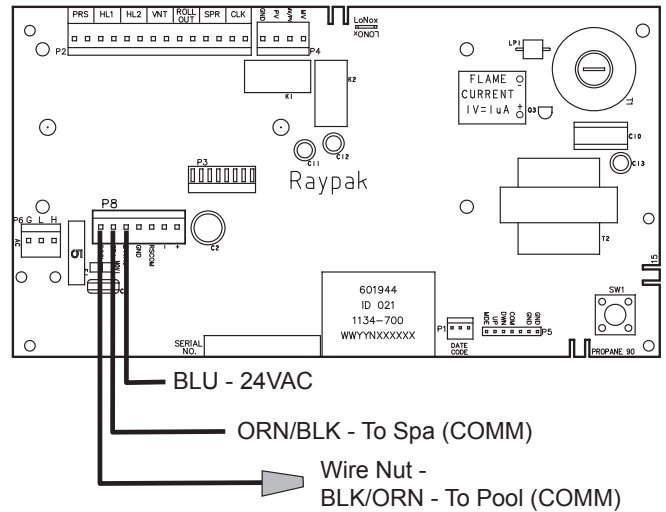

**Figure 31. 7-Pin Remote Interface Harness**
The P-156 heaters are equipped with the ability to work with external remote controls. The P-106 is not equipped for remote operation. The supplied 7-pin remote wiring connector supplies power out to either a toggle switch or the switch contacts of a third-party remote. See **Figure 31**. The remote works by either making or breaking the circuit created by the remote wiring. Typically, a remote does not supply power to the heater, it only provides a switching function to turn the heater On or Off. **If your remote is supplying its own voltage to the heater, it will not work with this heater and may damage the digital circuit board.**
5. On the "Remote Interface Harness", connect the BLUE wire to one side of the "REMOTE" switch and connect the other side to either the ORANGE/BLACK wire for "SPA" operation or the BLACK/ORANGE wire for "POOL" operation. See **Figure 31**.
5. On the "Remote Interface Harness" connect the BLUE wire to one side of the "REMOTE" switch and connect the ORANGE/BLACK wire for "SPA" operation and the BLACK/ORANGE wire for the "POOL" operation. See **Figure 31**.